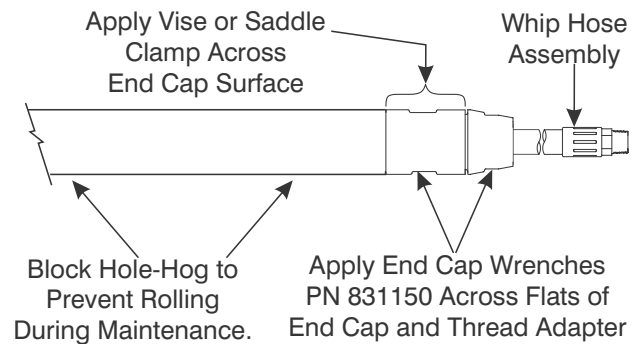
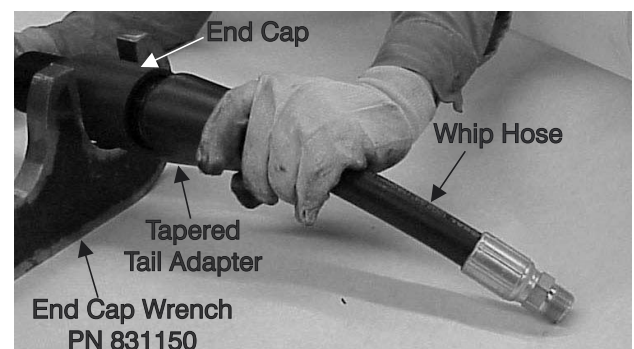

Figure 11-23. Secure Hole-Hog for Tail Adapter Removal
Figure 11-24. Slide Tail Adapter from End Cap, over Whip Hose.
- a. When using the End Cap Wrench, grip the Hole-Hog across the wrench flats of the End Cap (8) as shown in Figure 11-23.
- b. When using a vise or saddle clamp, grip the Hole-Hog across the raised area of the End Cap (8) on either side of the wrench flats as shown in Figure 11-23.
2. With the Hole-Hog secured as described above, fit one of the End Cap Wrenches (P/N 831150) across the flats of the Tapered Tail Adapter (13) as shown in Figure 11-23.
3. With the End Cap Wrench, loosen the Tapered Tail Adapter (13). It may be necessary to strike the wrench handle several times to loosen the adapter.
4. Thread the Tail Adapter (13) from the End Cap (8) and slide it off, over the Whip Hose as shown in Figure 11-24.